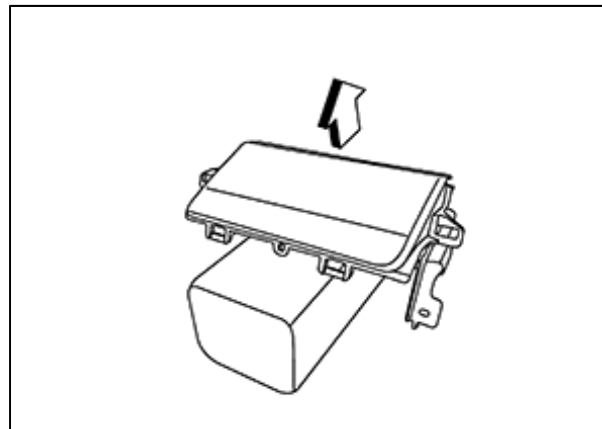

Figure 74
- Always place an airbag module with the deploying direction facing upward (Figure 74).